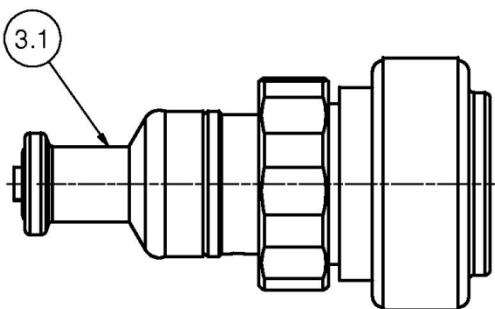

Figure 13 – Valve insert with re-inverted diaphragm (3.1)
- Flip the diaphragm (3.1) back (see figure 13).